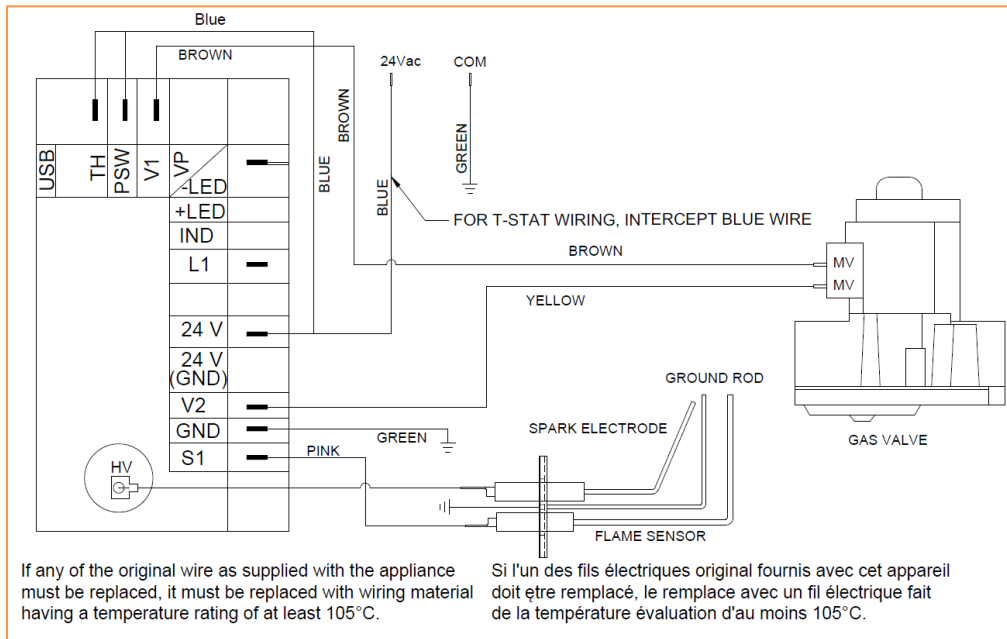
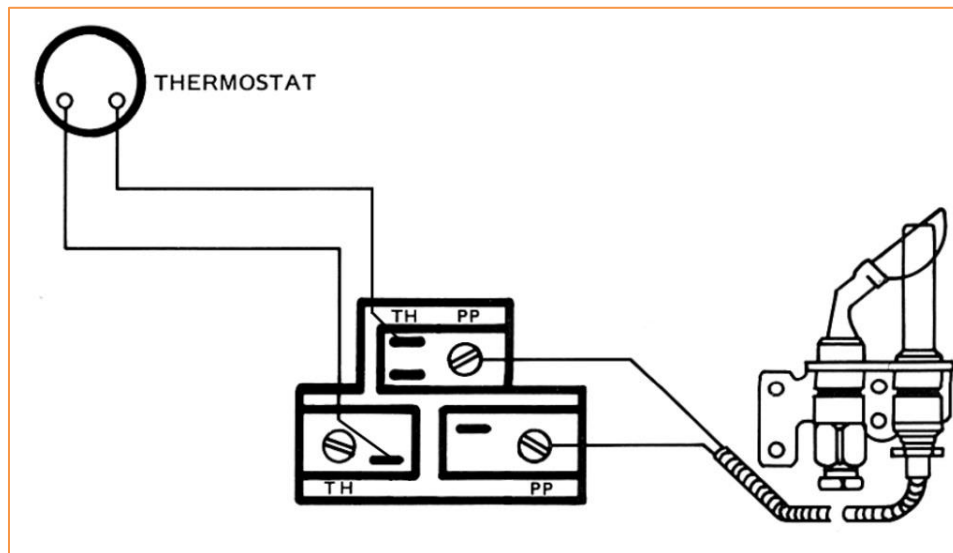

Figure 5: Wiring diagram (24 Vac - Direct Spark Ignition)
Figure 5A: Wiring diagram (Millivolt Pilot System)
- Two options are available: 24Vac supply (Figure 5) and Millivolt pilot system (Figure 5A).